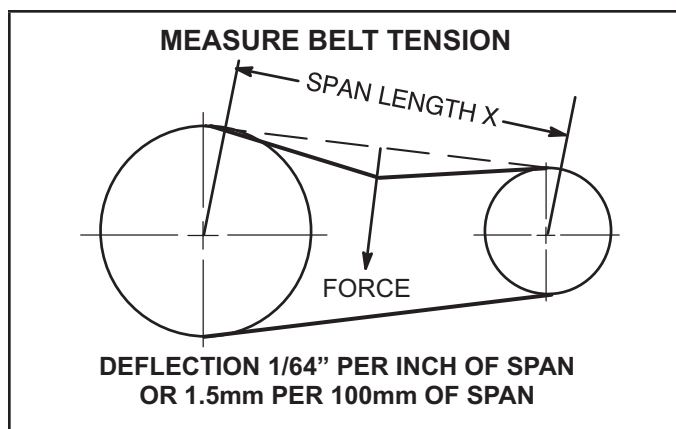

FIGURE 10
- 1 - Measure span length X. See FIGURE 10.